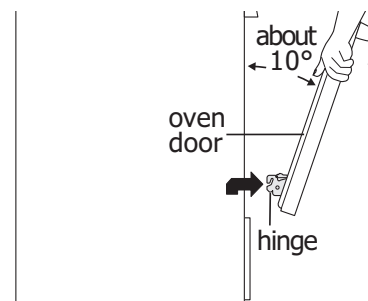

Figure 13: Lifting door from hinge hooks.
3. Grasp the door by the sides, and close the door until the door frame makes contact with unlocked hinges. (Figure 13)
1. Firmly grasp both sides of oven door along the door sides. Do not use the oven door handle (Figure 13).
4. Push the door hinge locks up toward and into the oven frame on both left and right oven door hinges to the locked position (Figure 13).